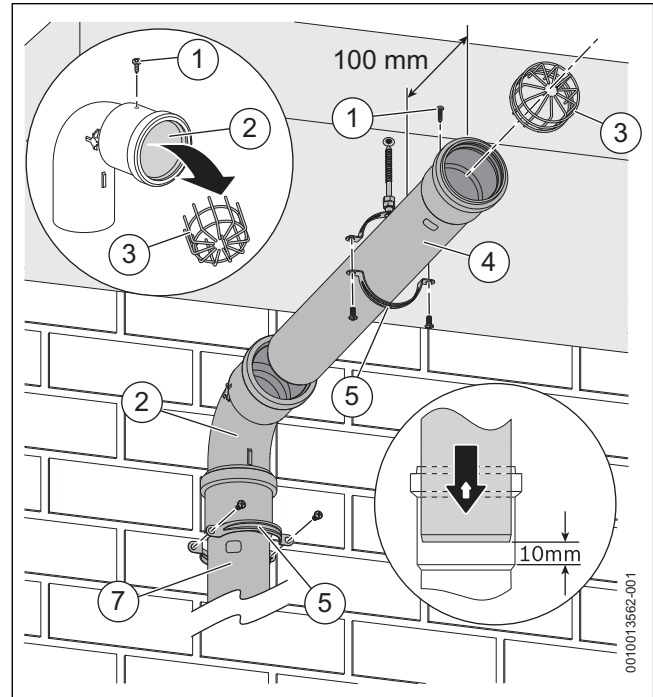

Fig. 46 Fitting extension under balcony/overhang
Refer to figure 46.
- Screw in the support clamp into the balcony/overhang plug to the distance shown in figure 46.